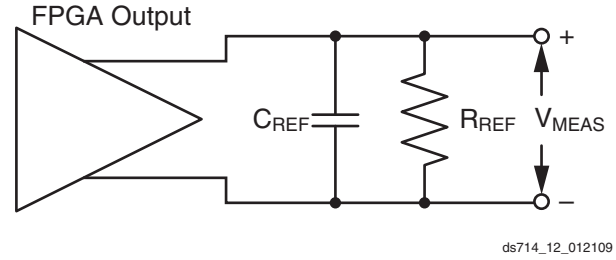
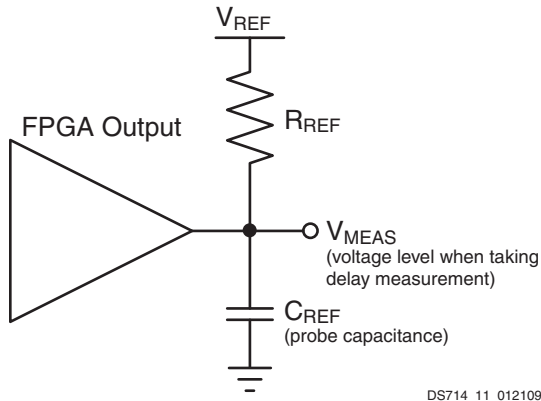

Figure 12: Differential Test Setup
Figure 11: Single Ended Test Setup
5. This is an input voltage reference that bears no relation to the V_{REF} / V_{MEAS} parameters found in IBIS models and/or noted in Figure 11, page 35.
Output delays are measured using a Tektronix P6245 TDS500/600 probe (< 1 pF) across approximately 4" of FR4 microstrip trace. Standard termination was used for all testing. The propagation delay of the 4" trace is characterized separately and subtracted from the final measurement, and is therefore not included in the generalized test setups shown in Figure 11 and Figure 12.